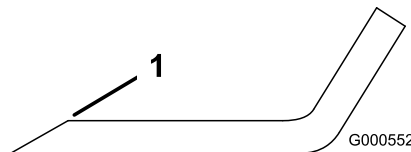

Figure 116
1. Use a file to sharpen the cutting edge at both ends of the blade (Figure 116).
Note: If the blade is not balanced, file some metal off the end of the sail area only (Figure 116).